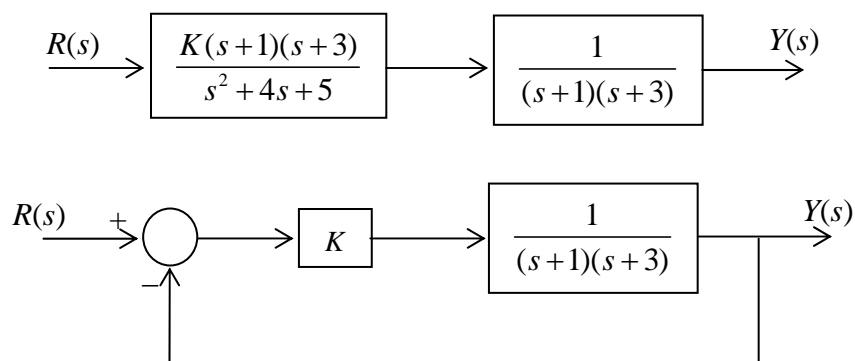

Figure 5
5. Consider the open-loop and closed-loop systems given in Figure 5. Show that the 2 systems have the same transfer function when $K = 2$. Compare the sensitivities of the systems with respect to deviation of K from $K = 2$.